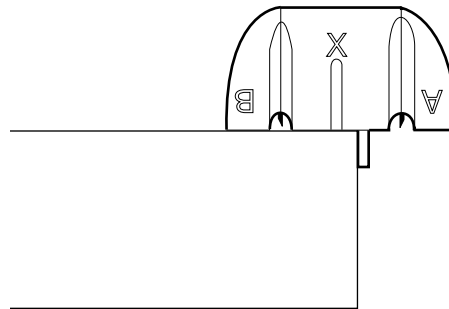

Figure 6
4.5 Using the corner of a flat surface, such as a counter top or bench, press the tool down flush so that individual parts of the tool are properly aligned (Figure 6).